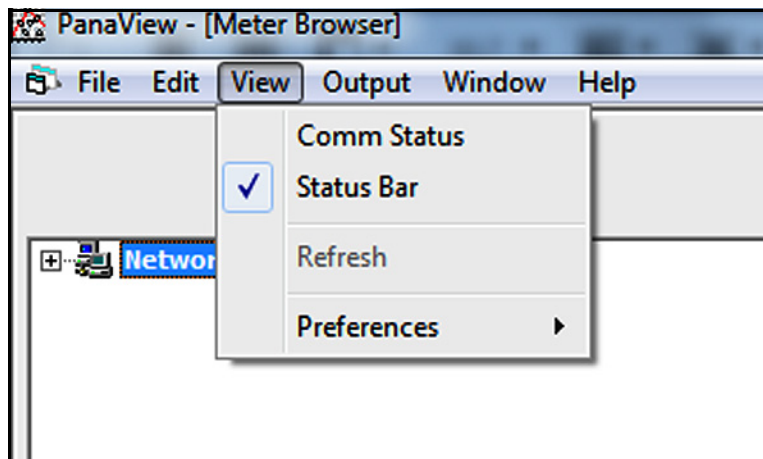
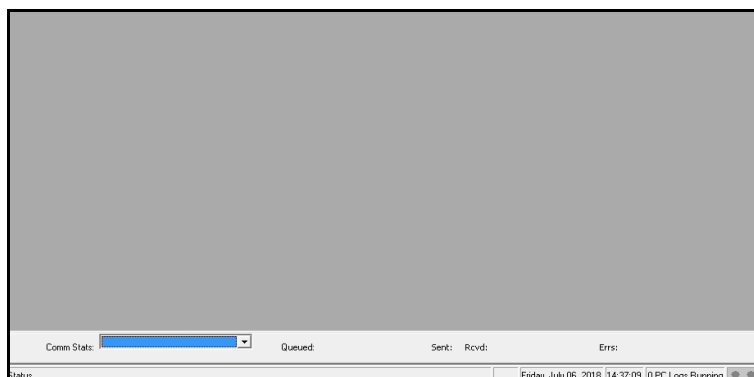

Figure 13: The View Menu
Figure 14: The Comm Status Bar
- **Status Bar** - by default on initial startup, it shows status messages (see *Figure 14* on page 13) such as: date, time, number of active logs, and number of communication errors (from left to right)
Prior to setting up communications with a meter, the “*View*” menu (see *Figure 13* below) provides three options for customizing the PanaView interface:
This option permits the user to toggle communications status bar to ON and OFF. The default state is “Off” as indicated by the absence of a check mark in *Figure 13 on page 13*. When toggled “On”, the Comm Status bar appears just above the main Status bar (see *Figure 14 below*) and displays the following serial communications categories, from left to right:
Note: To make the image in Figure 14 more readable on this page, the window was compressed horizontally from its actual dimensions.
The main *Status* bar shown in *Figure 14* on page 13 is always visible when PanaView is first started. However, it may be toggled on and off at any time during a PanaView session by selecting or deselecting it in the “View” menu. Its current state is indicated by the absence or presence of a check mark to its left in the *View* menu.
To access the “Preferences” option (see *Figure 13* on page 13), click on it in the “View” menu. Then, click on any of the tabs and proceed to the appropriate section for instructions.